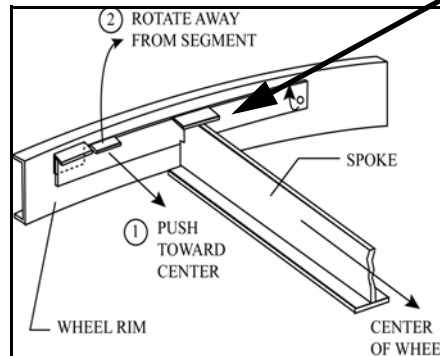

Figure 20 Release retaining latches following steps 1 and 2 in diagram.
- 4 Using a flathead screwdriver, unlock and open the two segment retaining latches, Figure 20, at the outer corners of the segment to be removed.
- 2 Begin by positioning one empty segment bay at the top of the wheel and opening the two retaining latches, Figure 20.
- 4 Close the retaining latches on outer corners of segment to secure the segment inside the wheel, Figure 20.